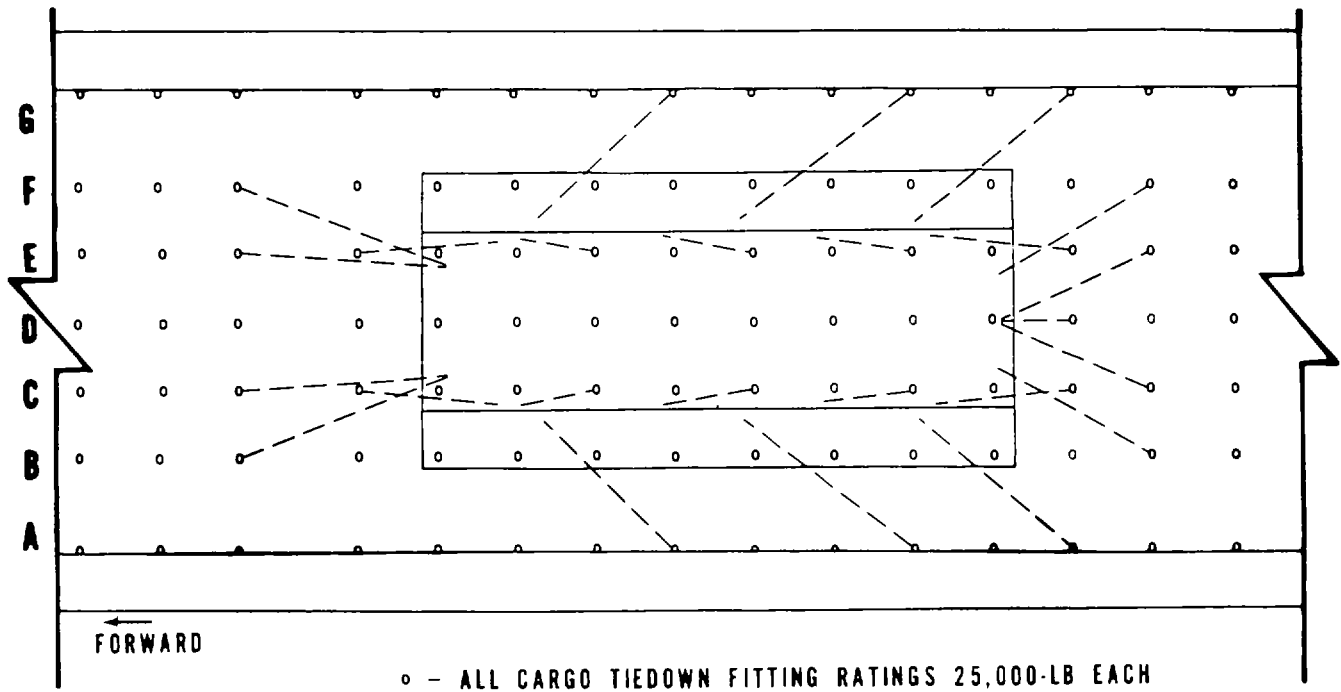

Figure 4-1. Tiedown diagram for M60-series tank in US Air Force C-5 airplane.
(2) All externally and internally stowed equipment must be secured.
(3) The vehicle should be loaded as indicated in figure 4-1.
(4) The vehicle transmission must be placed in neutral, and the brakes set.
(5) For acceptable restraint, the vehicle must be tied down in accordance with the pattern shown in figure 4-1 and data given in table 4-1.